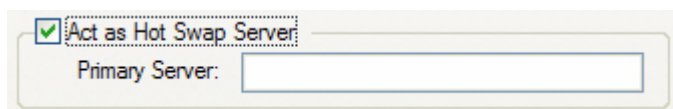

Figure 13-3: Configuring hot swap Server
- 1) From the Enterprise Server Configuration screen, check the **Act as Hot Swap Server** check box. See Figure 13-3.